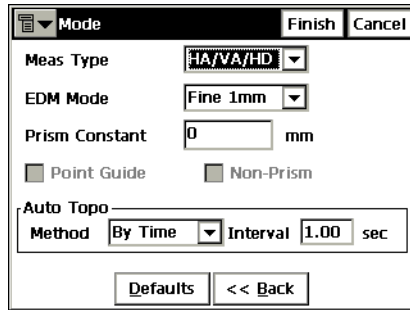

Figure 6-38. Mode Screen – Auto Topo Settings
- **Settings**: opens the *Mode* screen. Press **Next** to access the Auto Topo settings (Figure 6-38 on page 6-38):